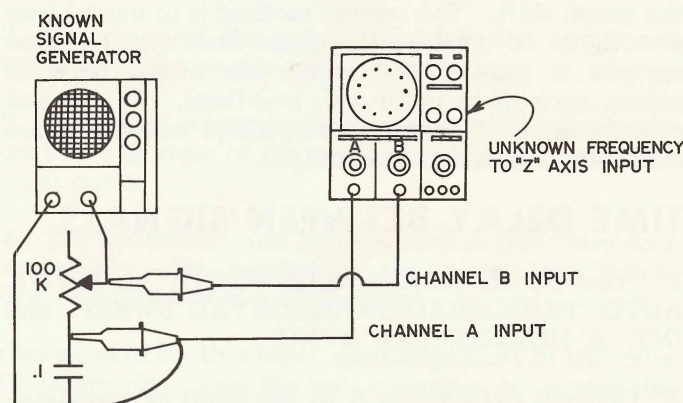

Fig. 8. Connections for frequency measurements using modulated ring method.
1. Connect the signal generator to a phase shift network as shown in Fig. 8. The network shown is for audio frequencies and the component values may need to be reduced for higher frequencies.